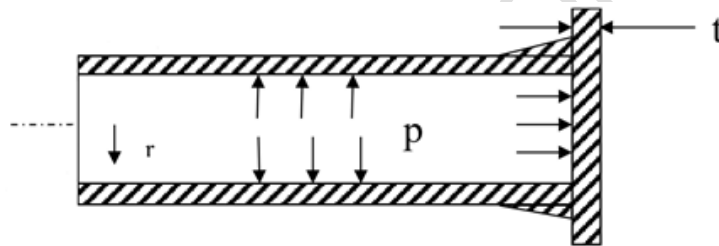

Figure Q2
- Q2. (a) A 300 mm internal diameter pipeline used in a chemical plant is pressurised to 3 MPa and has a blanking cover as shown schematically in Figure Q2. If it is assumed that the cover is manufactured from steel with $E = 210$ GPa and $\nu = 0.31$ and can be modelled as a thin flat circular plate. Hence show that: